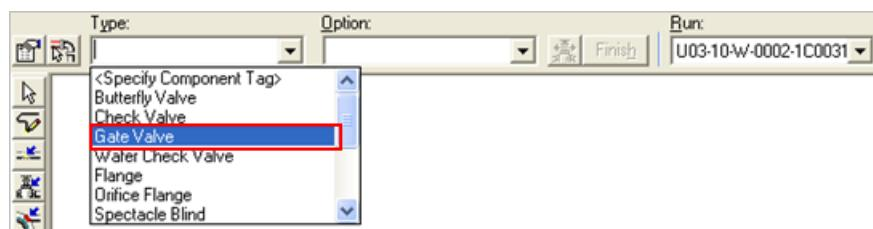

Figure 3. 46: Gate Valve Option in the Type Drop-Down List
80. You will now see an outline of a valve (base part) with mating flanges at the active placement point, as shown in Figure 3. 47.